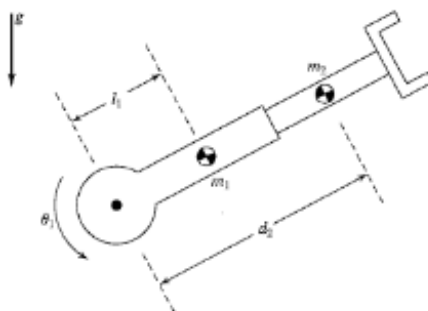

Figure 6
- B) Explain Inverse kinematics of a 2R planar open chain using law of cosines with a neat diagram (6)
- C) What is newton Raphson method of iteration how can it be useful to identify the Inverse kinematics of an open chain mechanism. (6)
- 6) Write a short note on the dynamics of manipulator and various methods to identify the dynamics of a mechanical system. (6)
- B) Explain newton Euler method with the help of equations (6)
- C) Identify the torque equation of a 2R manipulator using Newton Euler equations. (8)
- 7) Discuss on Lagrangian method (6)
- B) Identify the torque equation of the PR manipulator in Figure 6 (8)